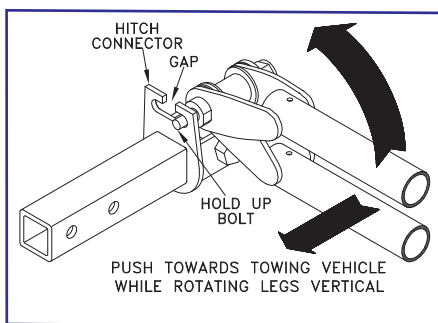

Figure 4
2. Rotate the tow bar legs to the opposite side of the stored position until the hold up bolt is centered with the slot in the hitch connector. Push the tow bar legs towards the towing vehicle while raising them to allow the hold up bolt to clear. If the hold up bolt does not align with the gap, rotate the tow bar farther. Pull the legs out away from the towing vehicle and place them on the ground. **NOTE:** The hold up bolt will pass through the gap in the hitch connector when the legs are pulled out from the towing vehicle. See Figure 4.